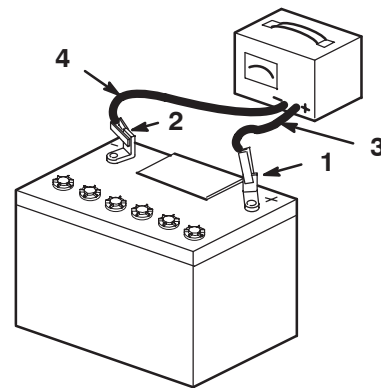

Figure 3
3. Connect a charger to the battery (Fig. 3) and charge it for a minimum of 1 hour at 6 to 10 amps.
- When the battery is fully charged, unplug the charger from the electrical outlet, then disconnect the charger leads from the battery posts (Fig. 3).